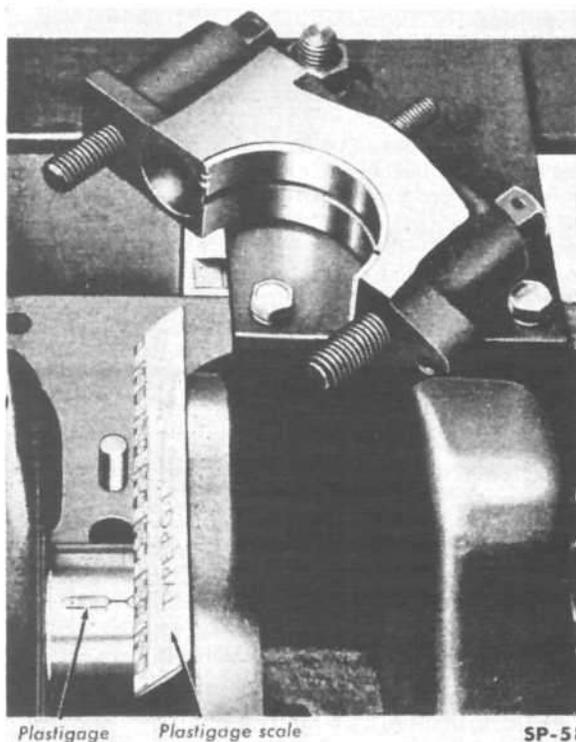

FIG. 49—CHECKING MAIN BEARING CLEARANCE WITH PLASTIGAGE
- d. Remove the cap and measure the width of the flattened "Plastigage," using the scale printed on the edge of the envelope (Fig. 49). The proper size "Plastigage" will accurately measure clearance down to .001 of an inch.